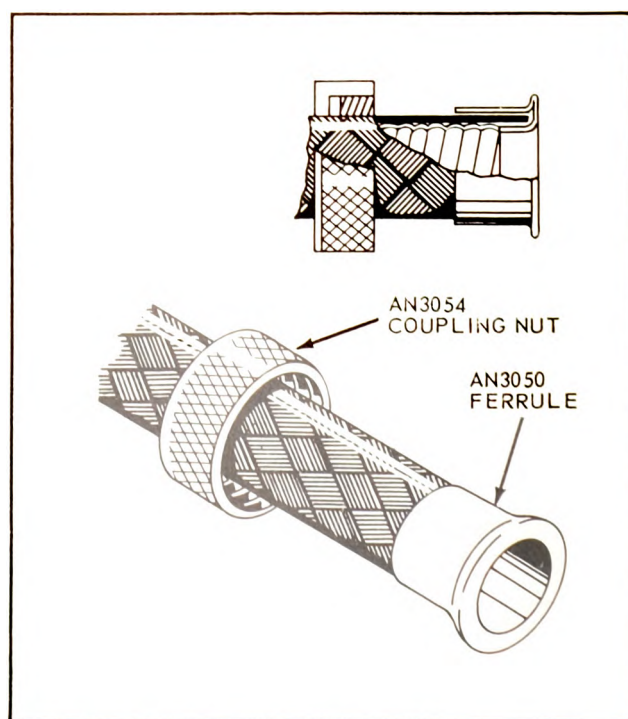

Figure 9-14. Bare Flexible Conduit Ready for Swaging
Step j. Slip nut on to conduit, and insert conduit end into ferrule until conduit bottoms, as shown in Figure 9-14.
h. Slide nut on conduit and insert conduit end into ferrule as far as it will go. See Figure 9-14.